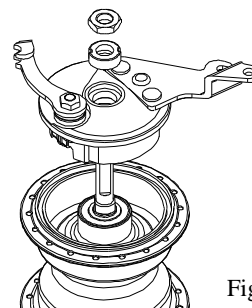

Fig 2
15. Fit brake assembly into brake drum. Fit cone adjuster over cone, fit washers and locknut. (Fig.2)